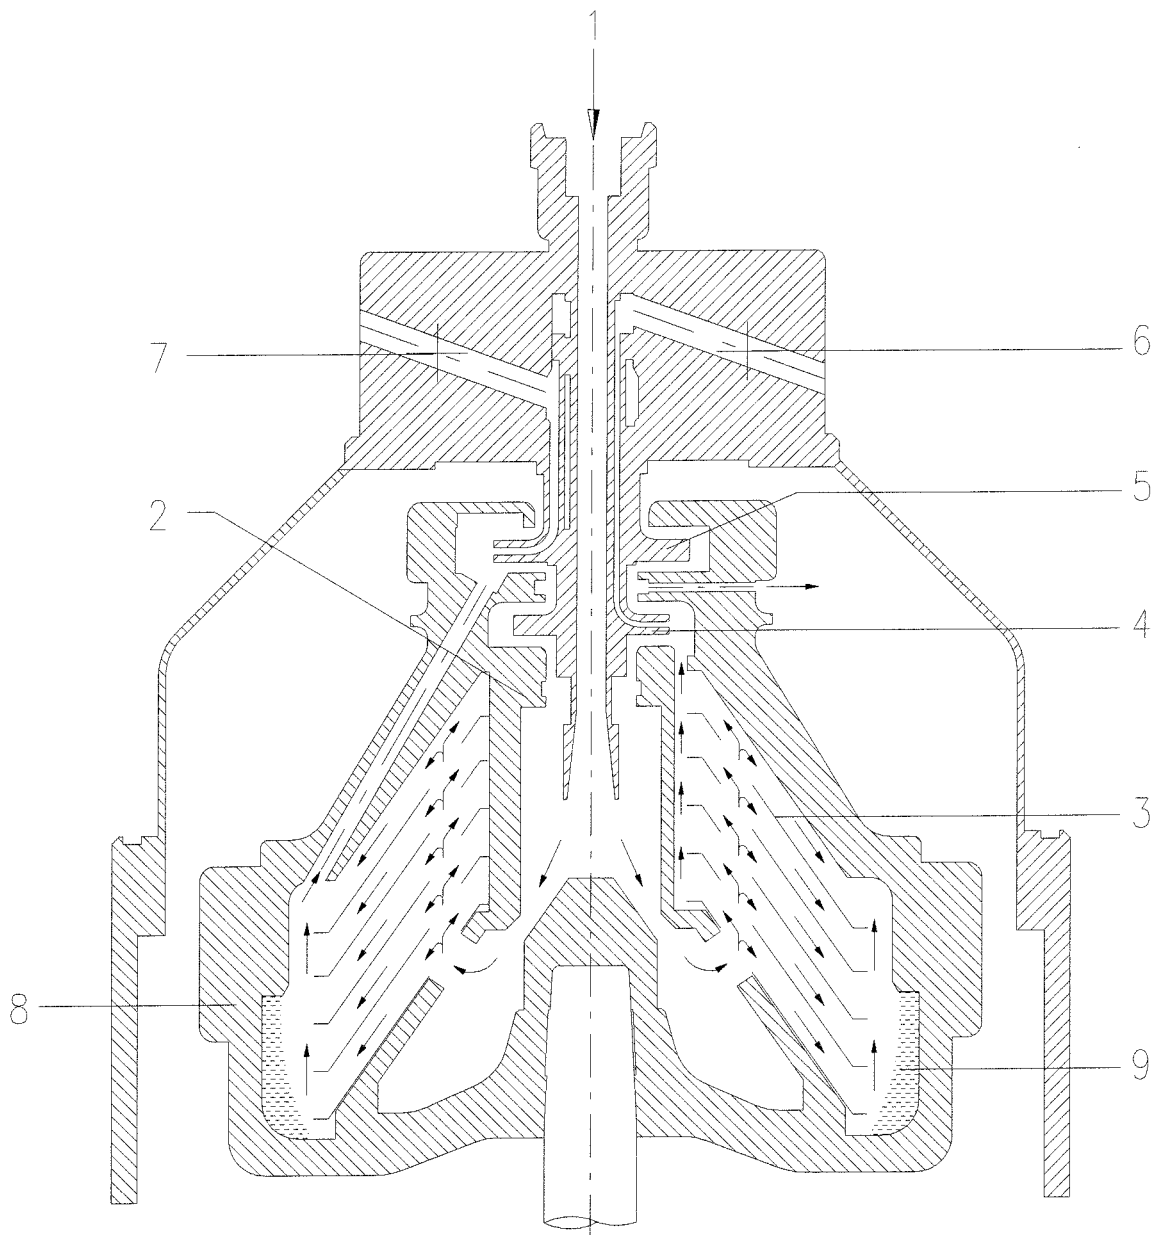

Figure 3.1
The product flows (fig 3.1) into the bowl through feed pipe (1) and into the distributor (2) it undergoes acceleration until it reaches the bowl rotating speed. The distributor (2) conveys the product to the disks stack (3) where the separation between cream and skim milk takes place. The great number of disks divide the internal space of the bowl into many thin layers which make more efficient the separation. The cream, that is lighter, flows towards the centre of the bowl and leaves the disk assembly via its inner edge. The skim milk is heavier and flows towards the bowl periphery. They rise in the disks stack and reach the two upper chambers of the bowl. Here two fixed centripetal pumps (4-5) convey them under pressure to the outlet pipe lines (6-7). The two pumps are surrounded by rotating liquids so, even if they are not rotating, they transfer the speed of the liquid into static pressure.